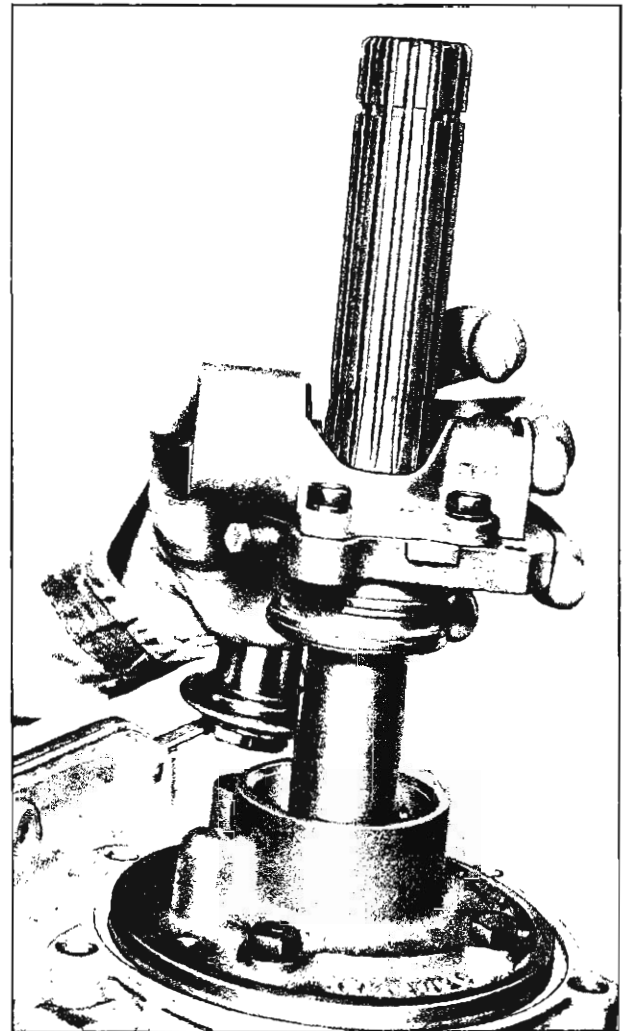

Fig. 9PG—Removing Governor Assembly
7. Loosen the governor drive screw and remove the governor assembly over the end of the output shaft (fig. 9PG).